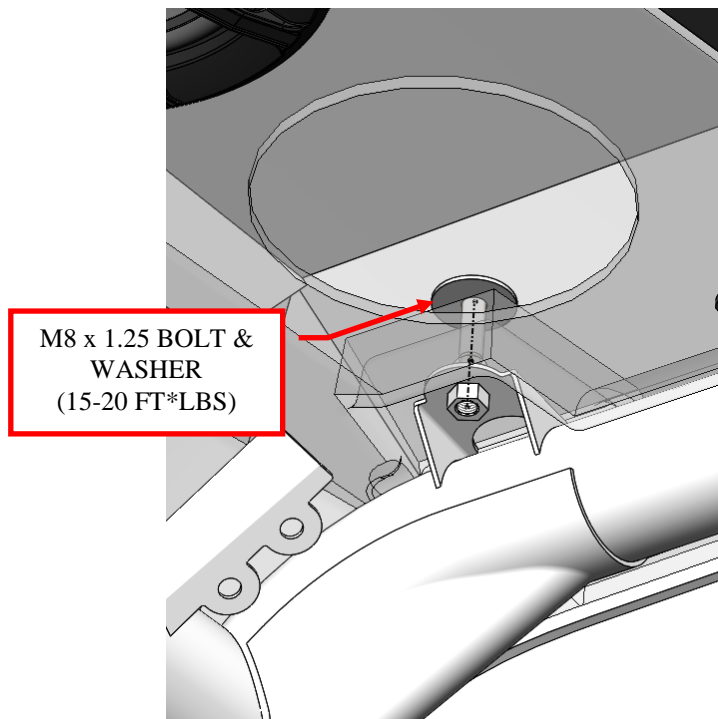

Figure 5: Install the hardware in the top.
3. Reach through each speaker opening, and bolt the top to the cage using the supplied M8 bolt and washer. Note: The nut is integrated into the cage from the factory. Torque to 15 to 20 ft.*lbs. See Figure 5.